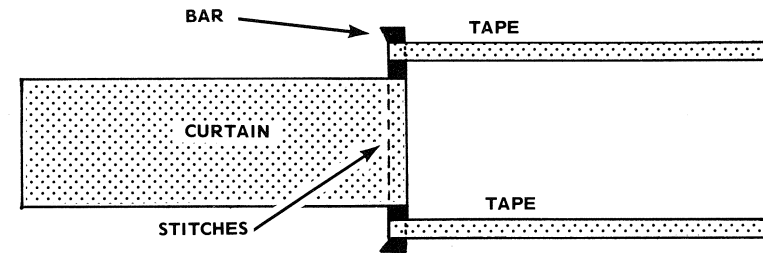

FIGURE 8
Perhaps the best way to understand the Leica-type shutter is to build one from scratch. We'll start with a part you've already seen — the curtain, Fig. 8. When we've finished, we'll have the shutter used in the Leica IIIf, Fig. 7 (A). Remember, that's the self-capping focal-plane shutter which inspired all the others.
Nylon tapes attach to the ends of the curtain bars in the same manner, Fig. 8. These tapes pull the curtains across the focal-plane aperture.